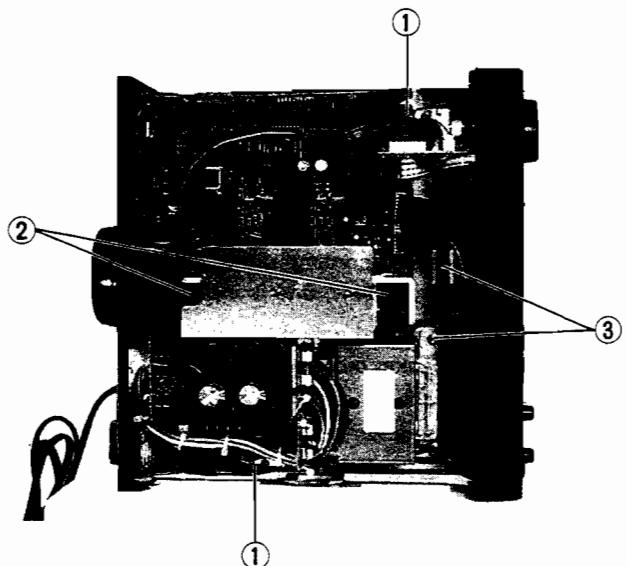

Fig. 1
2. Remove the 6 screws ①②③ fastening the main P.C. board and heat sink bracket. (Fig. 1)